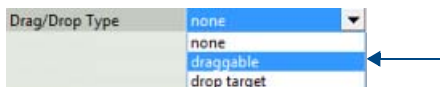

FIG. 17 TPDesign5 General Properties - Drag/Drop Type set to "draggable"
- Set the button's **Drag/Drop Type** (General) property to **draggable** (FIG. 17):